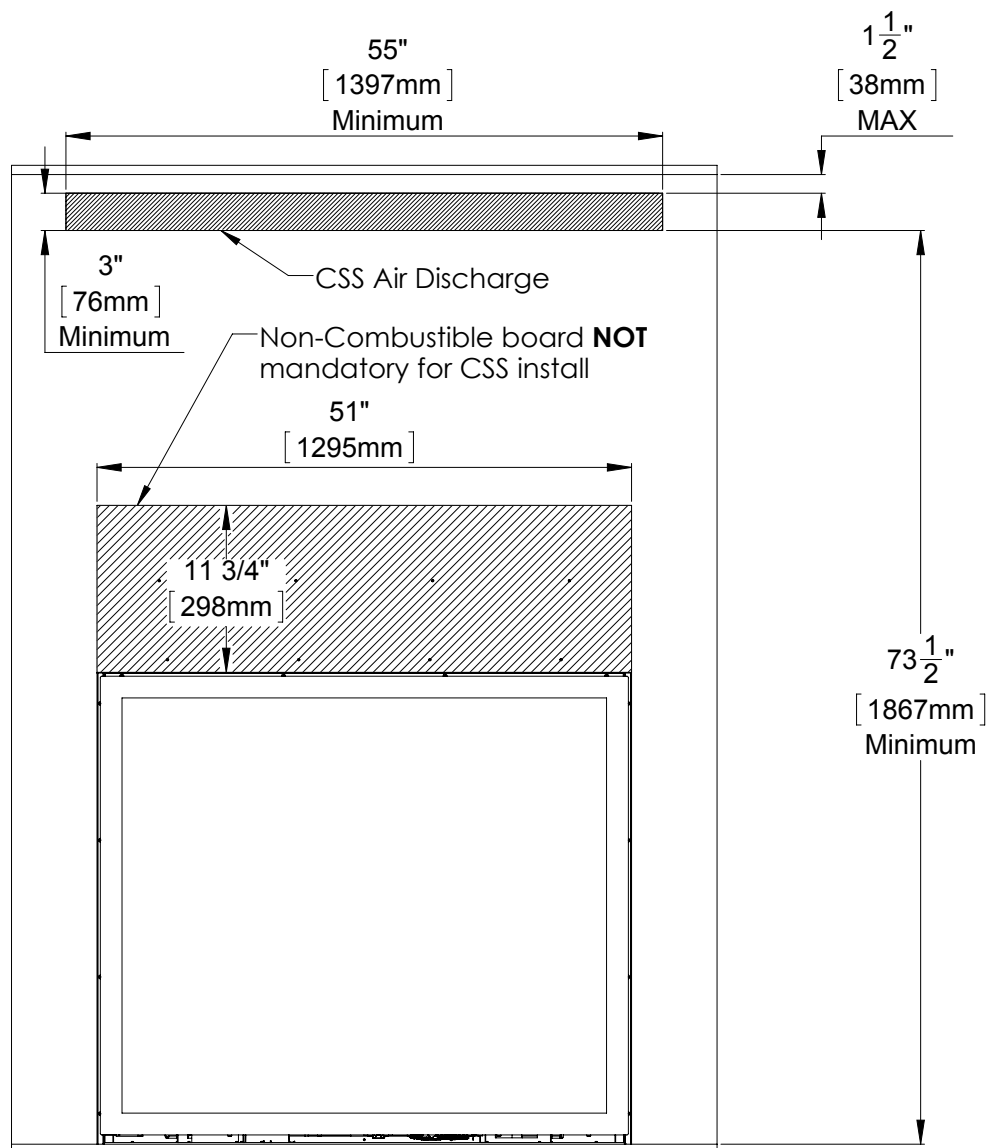
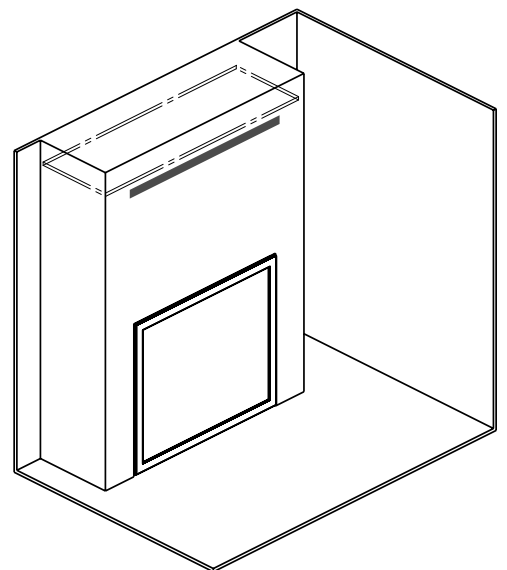

Figure 40: Framing Option 1
Figure 48: False Ceiling Iso View
**Framing Option 1: Front Discharge (flush wall installations)** - Construct the framing in a way that provides a minimum 55 inch (1397mm) by 3 inch (76mm) gap at the top of the facing wall. It is essential that these dimensions are respected and not to deviate away from them when using combustible materials inside the chase (see Figure 40).
**Optional: False Ceiling** - If your ceiling dimension is greater than the minimum (See figure 40) You may want the CSS Air discharge lower on the wall. To do this a false ceiling is required to properly evacuate the heat from the chase. (See Figure 48).